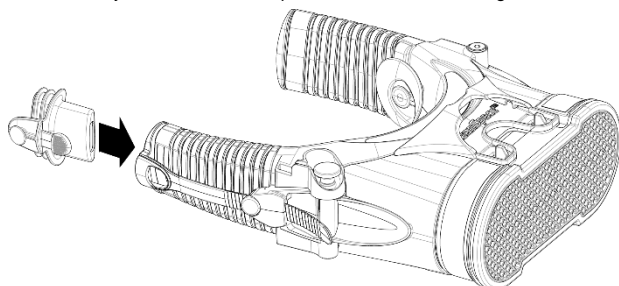

Figure 12 - Flow Test
2. Fit the yellow Flow Test Cap to the left bellow. See Figure 12.